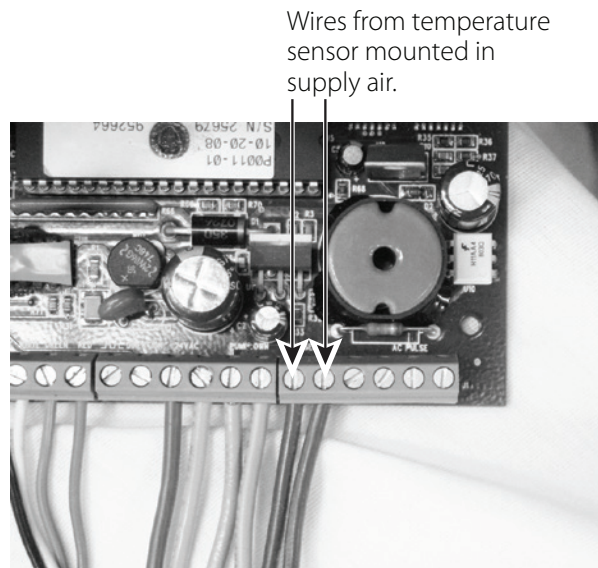

Figure 7 - Temperature Sensor Wires
2. Mount the sub-base on a level plane. Connect the thermostat wire to the unit terminal board and the thermostat as shown in Figure 7.
See Figure 7.